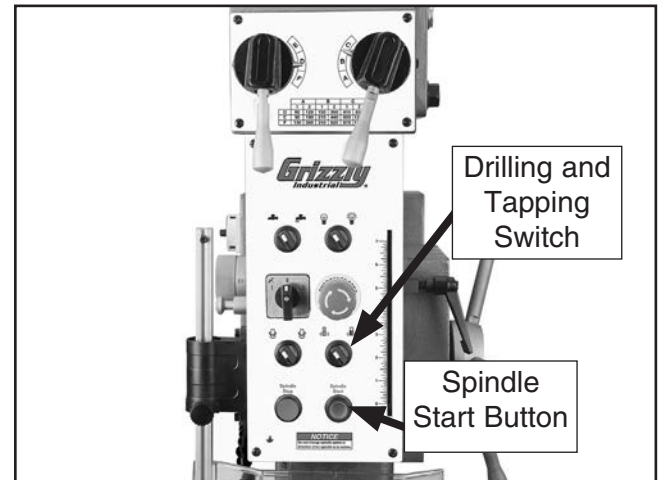

Figure 14. Drilling/tapping switch.
1. Move the drilling & tapping switch to the drilling position (see **Figure 14**).